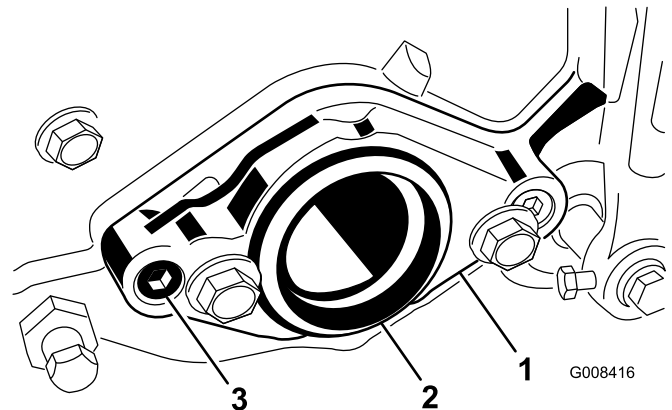

Figure 3
6. Remove the 2 allen-head screws securing the motor mount to the right end of the cutting unit and the motor mount (Figure 3).